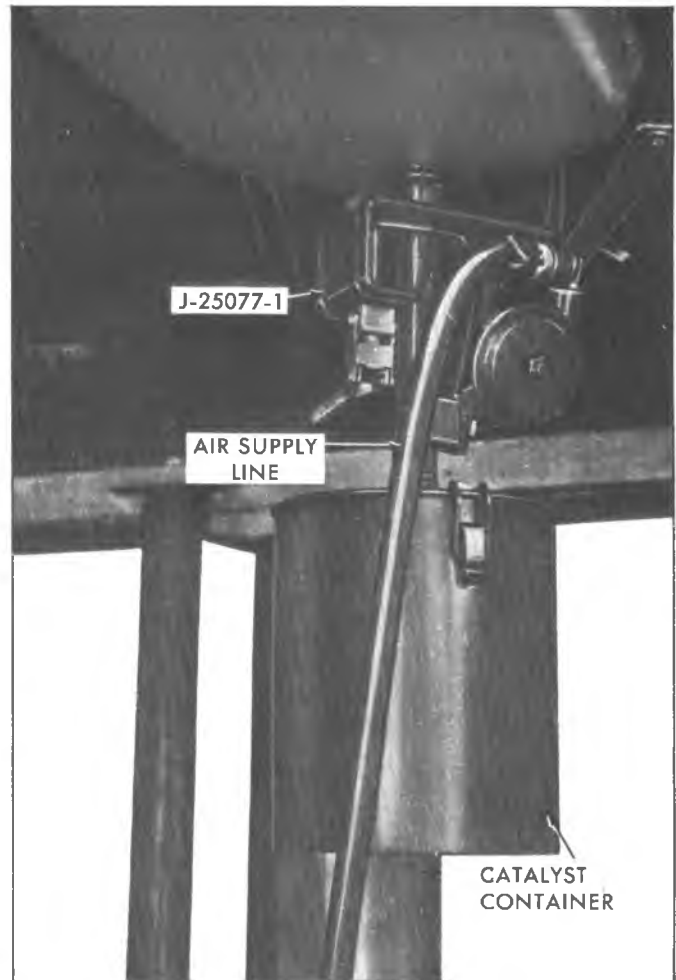

Fig. 9—Container Installed on Vibrator
5. Install empty catalyst container to converter (Fig. 9).